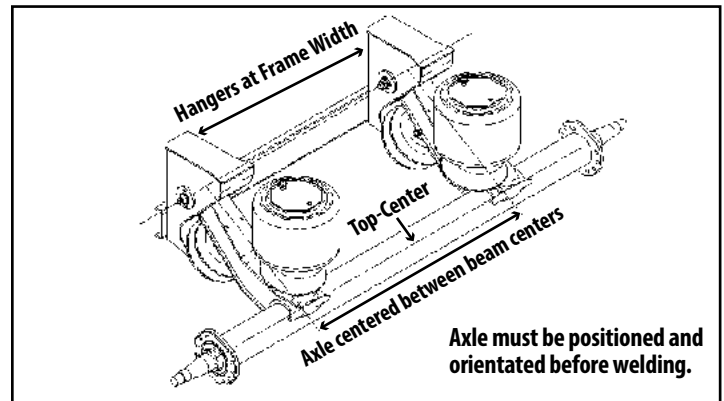

Figure 1.
- Center axle assembly on the beams (Figure 1).